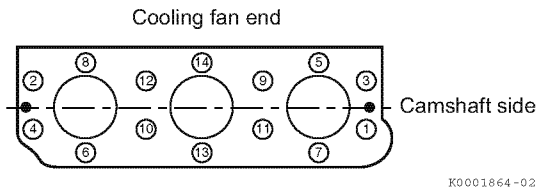

Figure 6-7
1. Loosen the cylinder head bolts following the sequence shown in **Figure 6-7**.